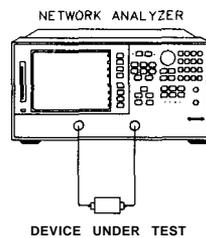

Figure 2-1. Basic Measurement Setup
1. Make the connections as shown in Figure 2-1.